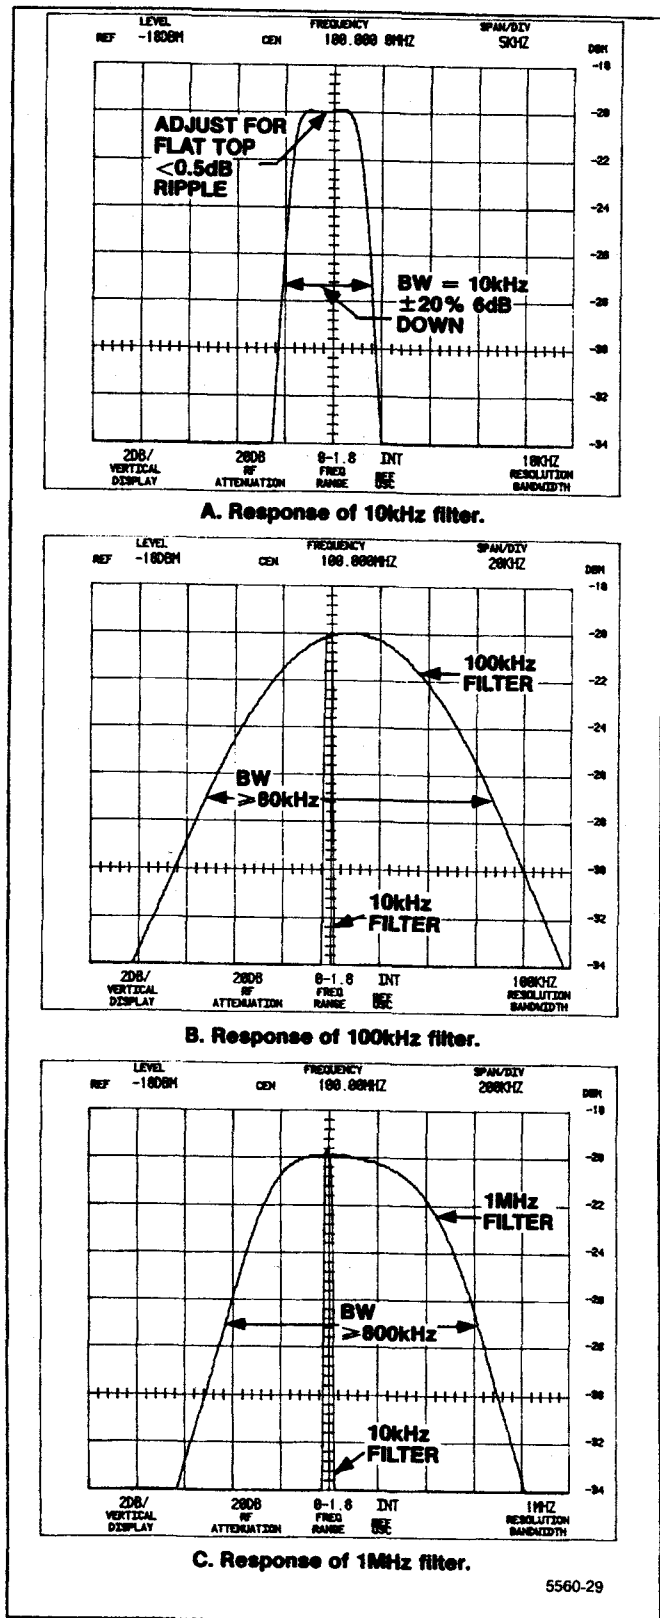

Figure 5-19. 10 kHz, 100 kHz, and 1 MHz filter response.
- s. Check the waveshape, bandwidth, and centering of all filters. If necessary, make only fine or minor adjustments. Figure 5-19 shows typical response shapes.
- (1) Set the FREQ SPAN/DIV to 500 kHz, RESOLUTION BANDWIDTH to 100 kHz, and REF LEVEL to -20 dBm.
- (2) Adjust all filters to the 100 kHz level as per the following Table 5-3. Change FREQ SPAN/DIV as necessary to maintain a suitable display.